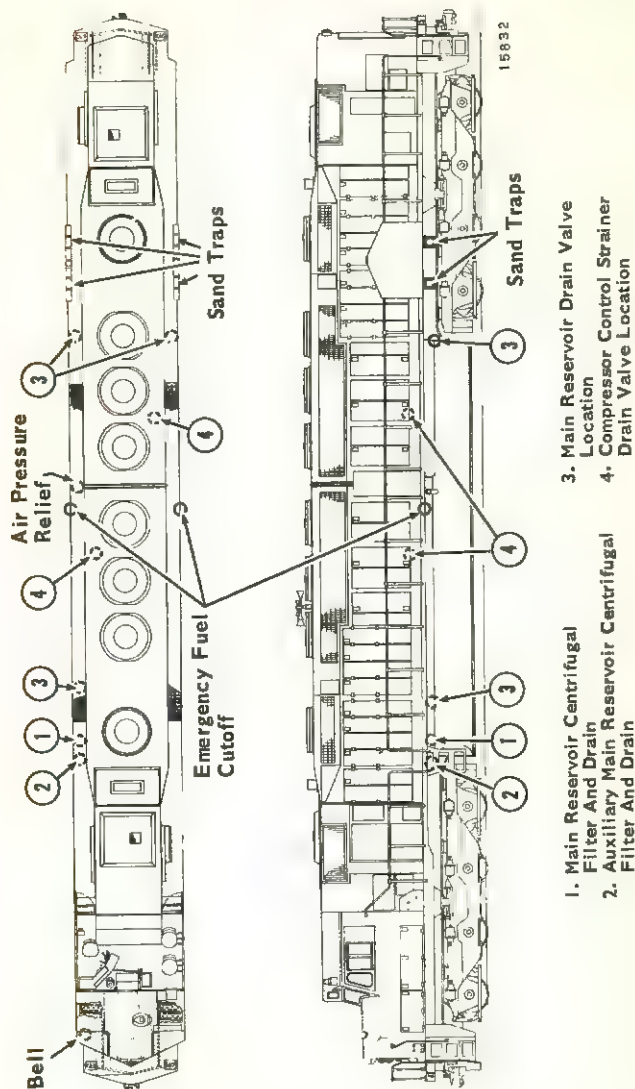
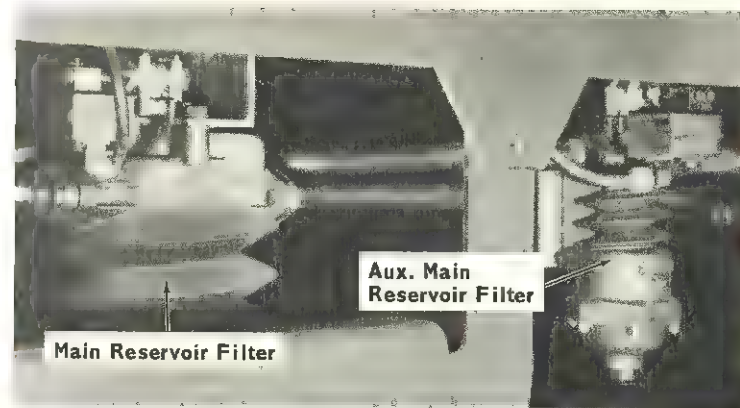

Fig. 3-4 — Compressed Air System Drain Valve Locations
Fig. 3-5 — Main And Auxiliary Main Reservoir Centrifugal Filters And Filter Drains
1. Momentarily operate the manual override lever on auxiliary main reservoir centrifugal filter, 2, Fig. 3-4 and Fig. 3-5.
2. Momentarily operate the manual override lever on the main reservoir centrifugal filter, 1, Fig. 3-4 and Fig. 3-5.